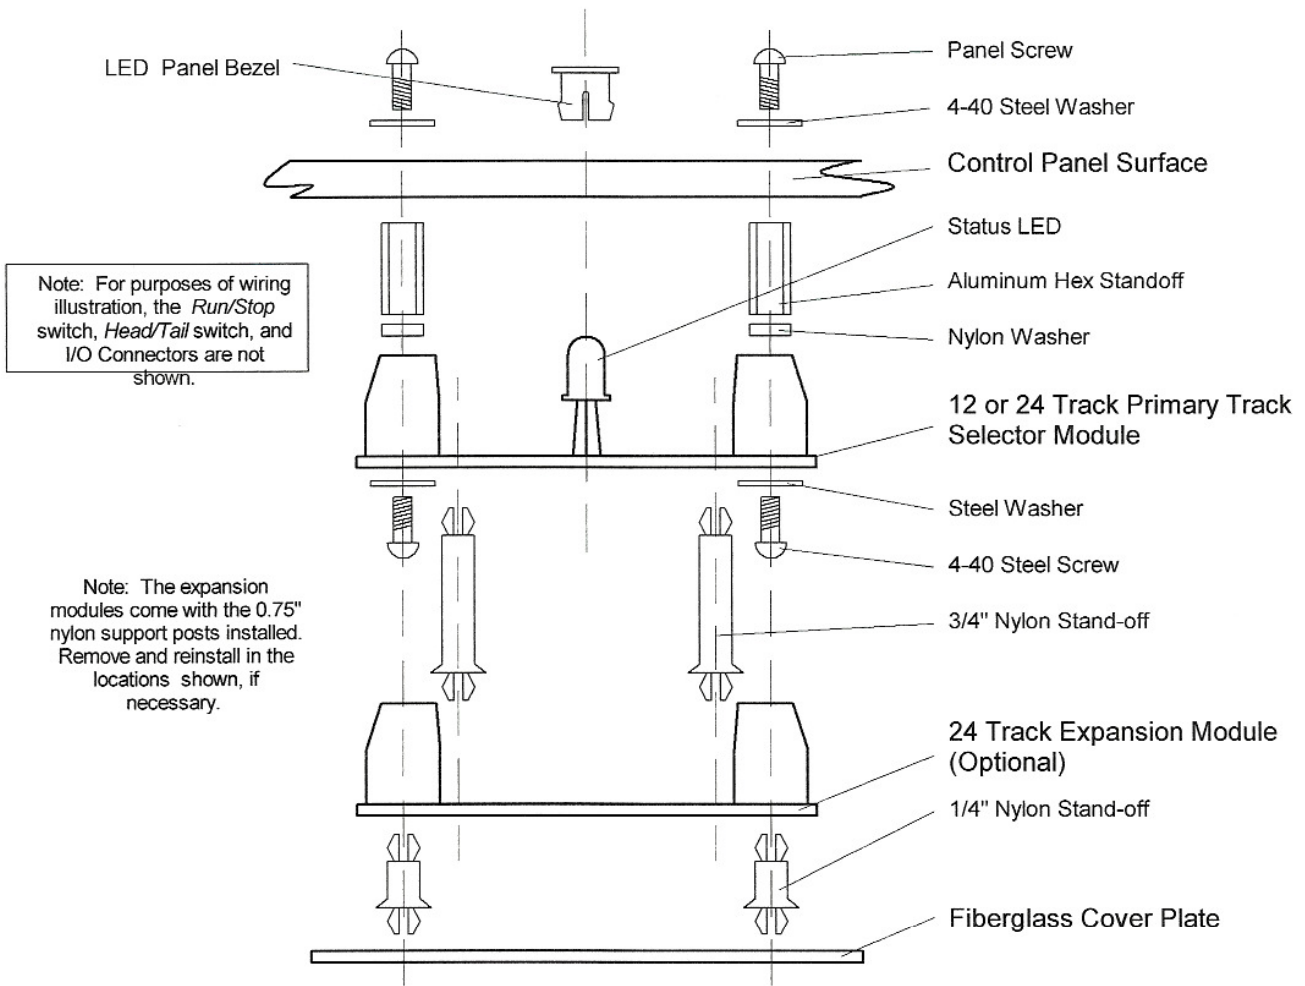

Figure 5: Track Selector Mounting Assembly with Stacked Expansion Module, Exploded View (End View, Scale = 1:1)
3. Refer to Figure 5, "Track Selector Mounting Assembly with Stacked Expansion Module, Exploded View":
- 9.1. Referring to Figure 5, note the nylon standoffs used to support the Expansion Module.